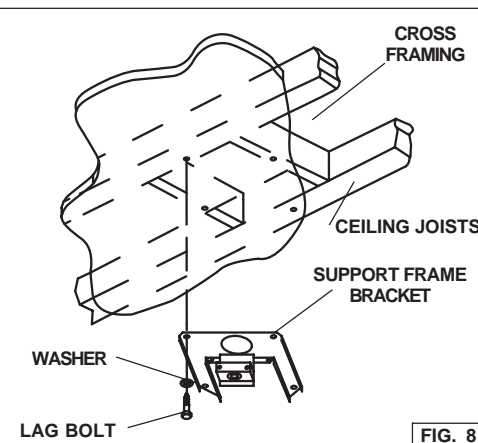

FIG. 8
6. Cut openings in ceiling surface and mount the support frame bracket with (4) hex head lag bolts and washers. Fig. 8.